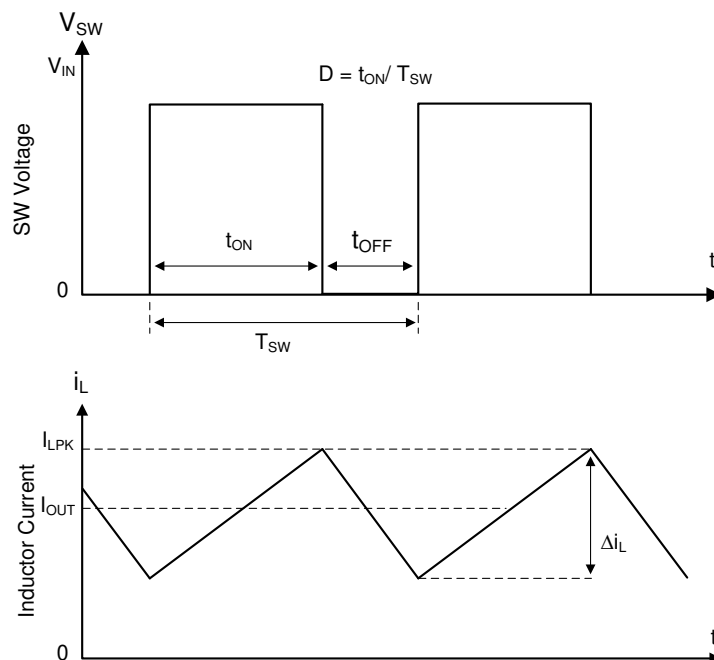

Figure 8-1. SW Node and Inductor Current Waveforms in Continuous Conduction Mode (CCM)
The following operating description of the LMR50410 refers to Section 8.2 and to the waveforms in Figure 8-1. The LMR50410 is a step-down synchronous buck converter with integrated high-side (HS) and low-side (LS) switches (synchronous rectifier). The LMR50410 supplies a regulated output voltage by turning on the high-side and low-side NMOS switches with controlled duty cycle. During high-side switch ON time, the SW pin voltage swings up to approximately V_{IN} , and the inductor current, i_L , increases with linear slope $(V_{IN} - V_{OUT}) / L$. When the high-side switch is turned off by the control logic, the low-side switch is turned on after an anti-shoot-through dead time. Inductor current discharges through the low-side switch with a slope of $-V_{OUT} / L$. The control parameter of a buck converter is defined as Duty Cycle $D = t_{ON} / T_{SW}$, where t_{ON} is the high-side switch ON time and T_{SW} is the switching period. The converter control loop maintains a constant output voltage by adjusting the duty cycle D . In an ideal buck converter, where losses are ignored, D is proportional to the output voltage and inversely proportional to the input voltage: $D = V_{OUT} / V_{IN}$.